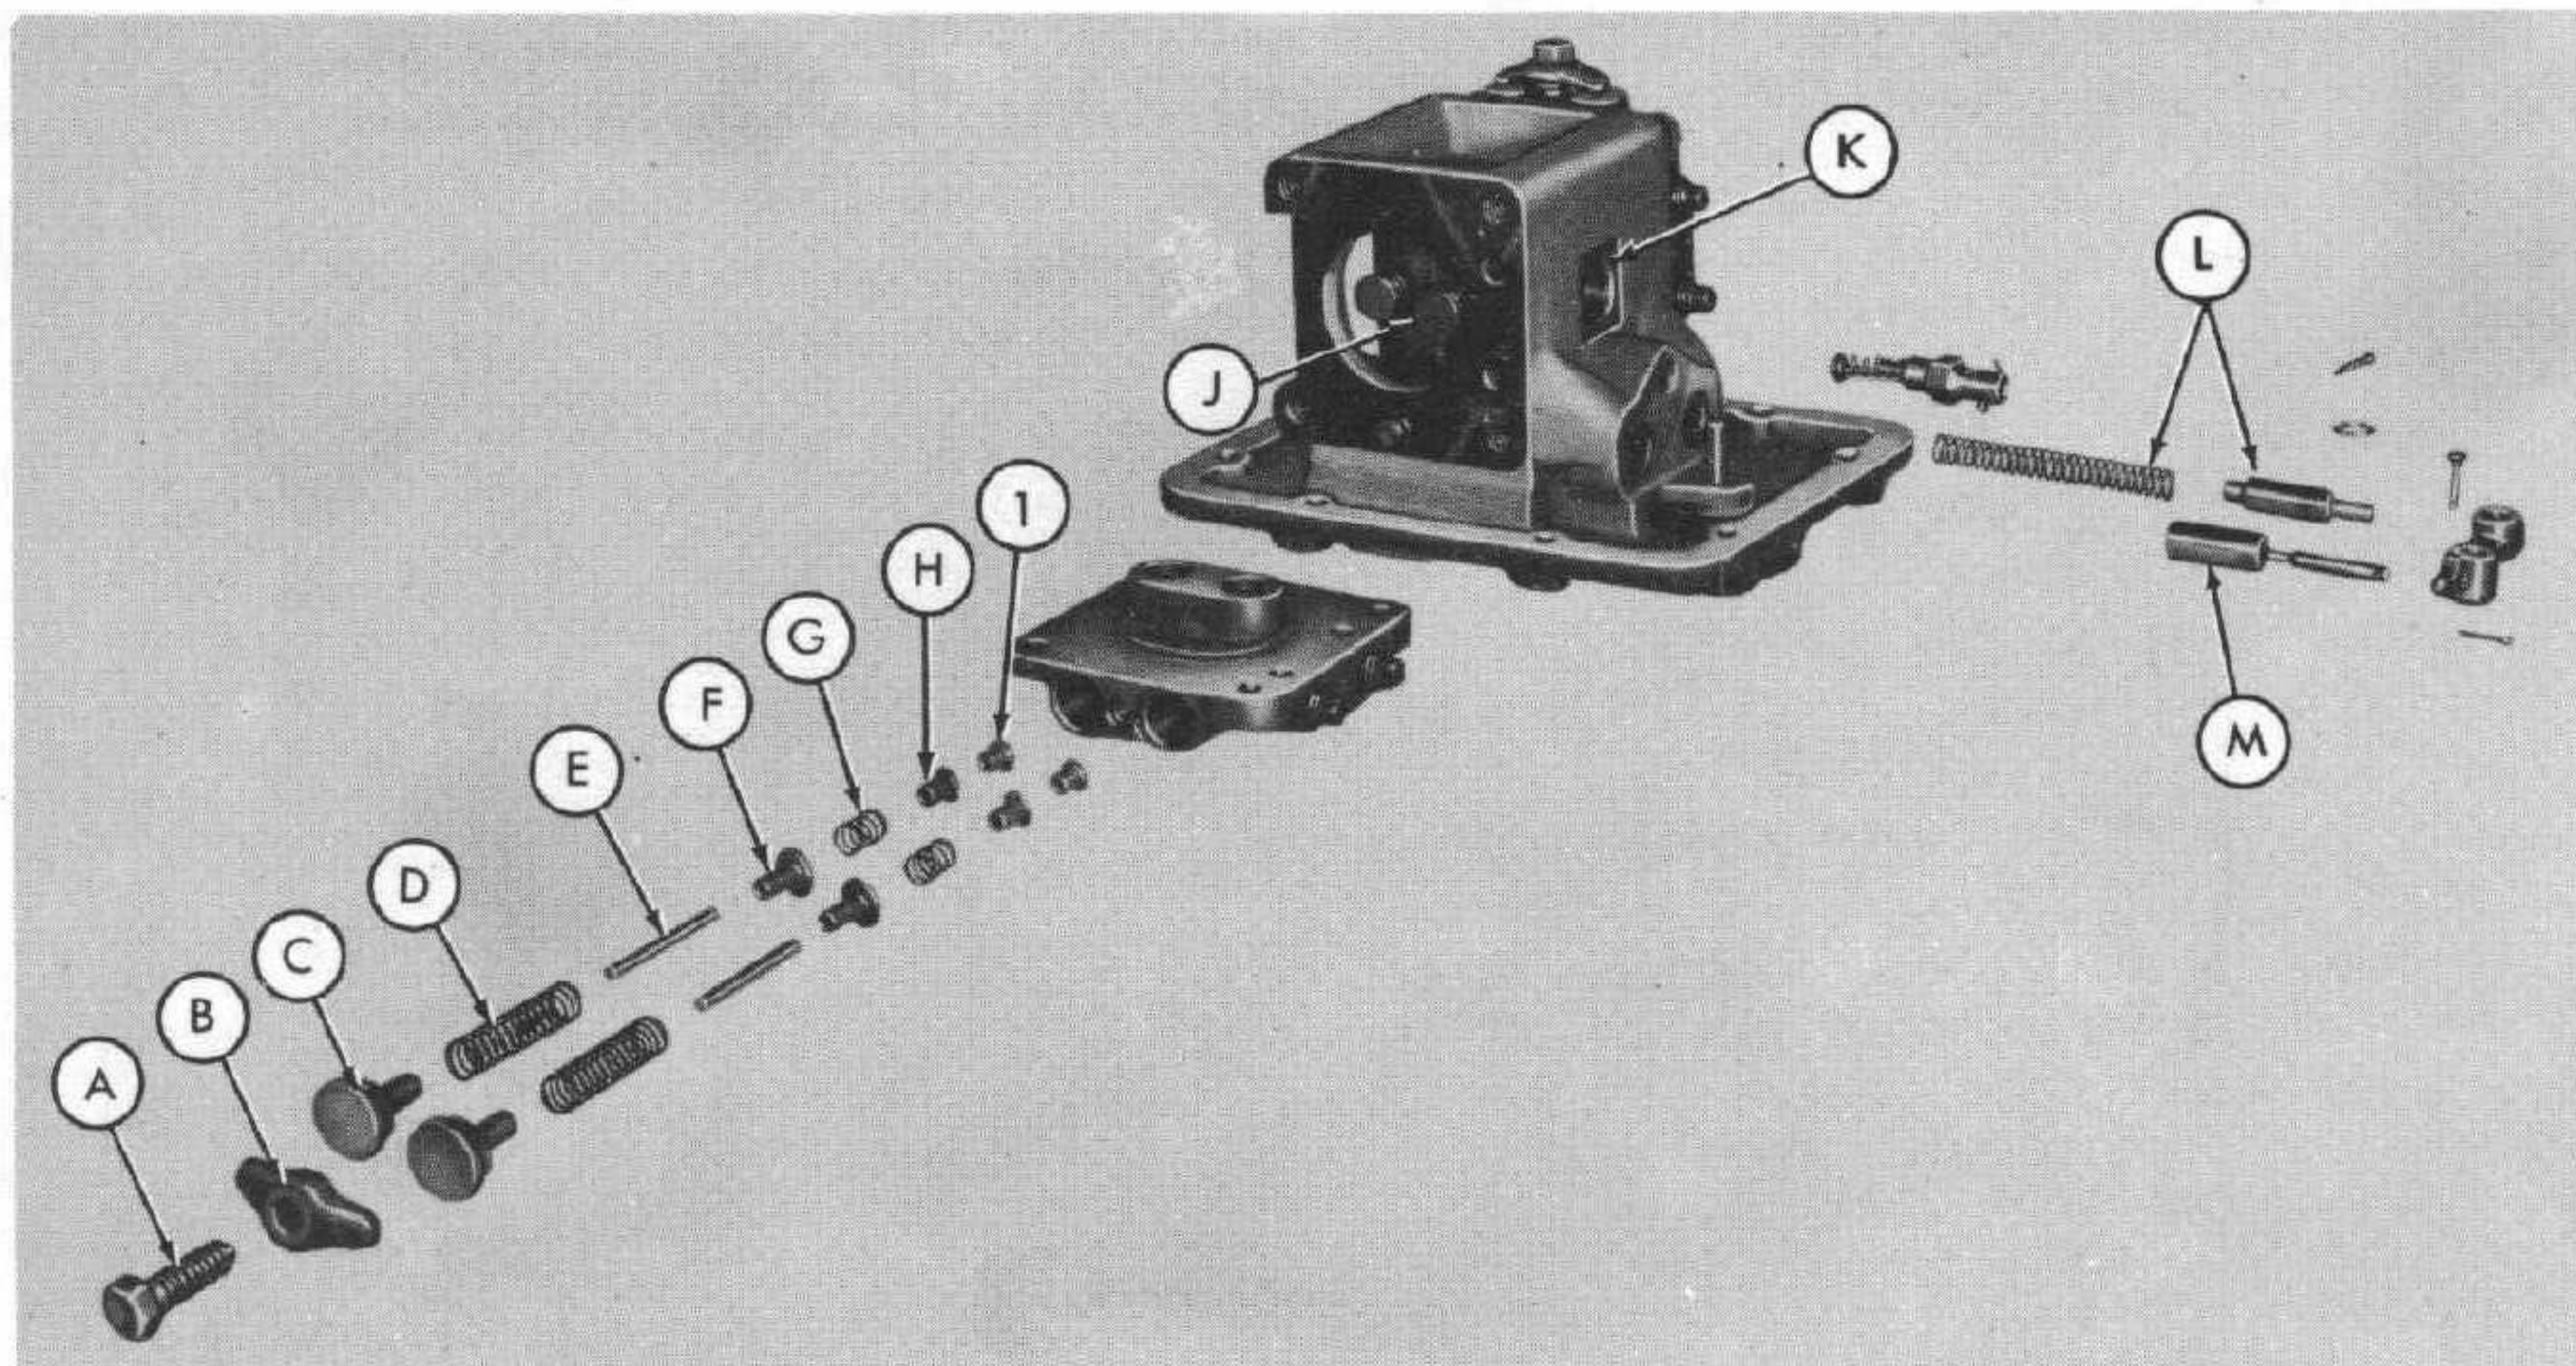

Fig. 2
- Step 5—Remove the intake control valve and spring (L-Figure 2) from the pump housing.
- Step 6—Remove the exhaust control valve (M-Figure 2) from the pump housing.
- Step 9—Lift the cam and piston assembly (J-Figure 2) out of the pump base.
- Step 10—Remove the power take-off shaft bushing (K-Figure 2) from the pump base.
- Step 11—Remove the cap screw (A-Figure 2) from the clamp (B-Figure 2) on each valve chamber and remove the clamp.
Step 12—Remove the two spring seats (C-Figure 2), outlet valve springs (D-Figure 2), valve guides (E-Figure 2), outlet valves (F-Figure 2), inlet valve springs (G-Figure 2), inlet valves (H-Figure 2), and the valve guide sockets (I-Figure 2), from each valve chamber cover.